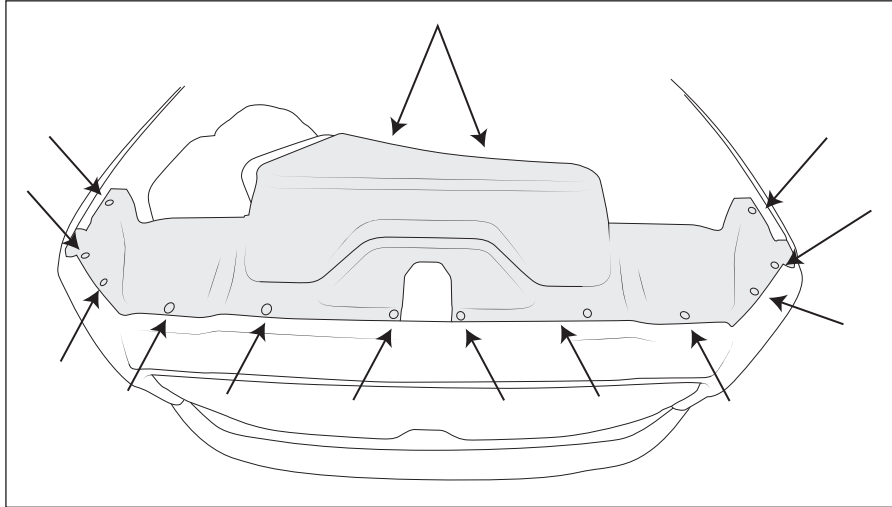

Figure 1
2. Remove the radiator cover by removing the 14 push clips (fig. 1).